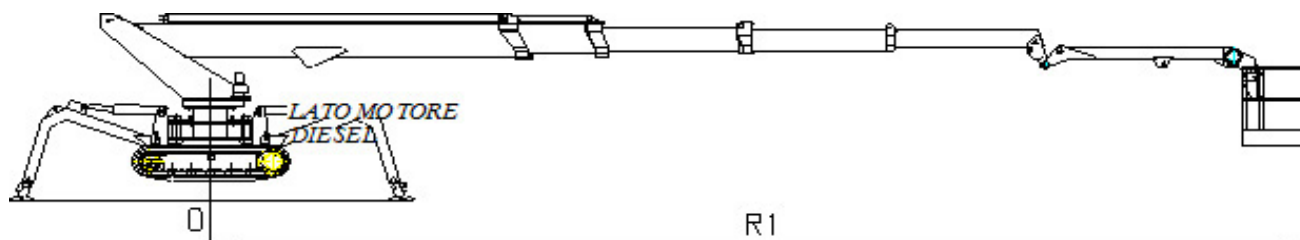

Fig. 5.6
- in these conditions, verify that the distance between the turntable center and the basket border (R1, look Fig. 5.6) is the same of the value written in the chapter 1 with a tolerance of 30 cm